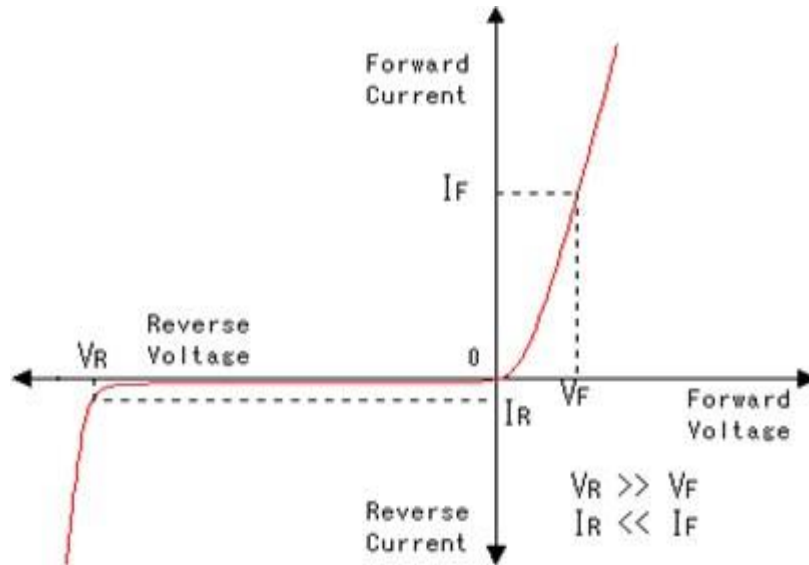

Fig. 3.3 Forward and reverse bias V-I characteristics of a PN junction diode
The forward and reverse bias characteristic for p-n junction diode has been given in Fig. 3.3.
9. The typical forward and reverse characteristics are shown in Fig. 3.3.